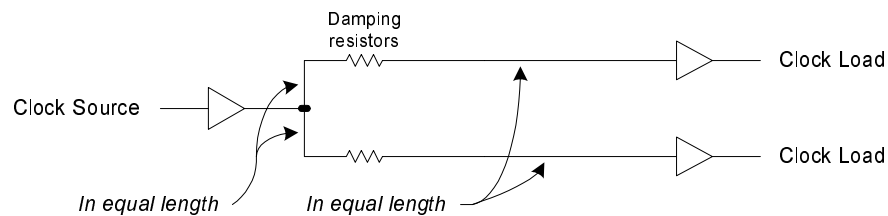

Figure 2-20. Series Termination for Multiple Clock Loads
- Series terminations (damping resistors) are needed for all clock signals (typically 10 ohms to 33 ohms). When two loads are driven by one clock signal, the series termination layout is shown in Figure 2-20. When multiple loads (more than two) are applied, a clock buffer solution is preferred.